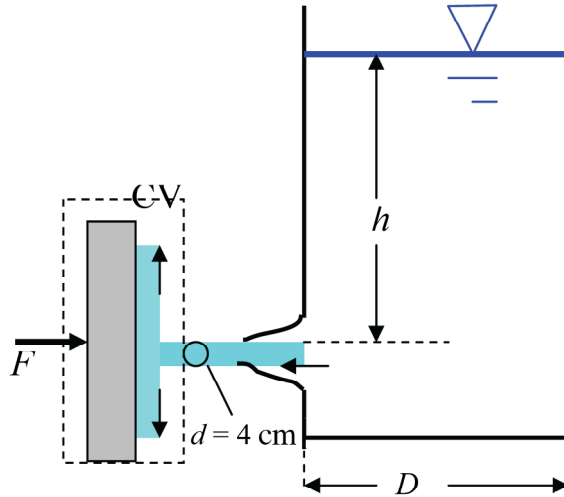

Fig. P3.100
3.100 A cylindrical water tank discharges through a well-rounded orifice to hit a plate, as in Fig. P3.100. Use the Torricelli formula of Prob. P3.86 to estimate the exit velocity. (a) If, at this instant, the force F required to hold the plate is 40 N, what is the depth h ? (b) If the tank surface is dropping at the rate of 5 cm every 2 seconds, what is the tank diameter D ?